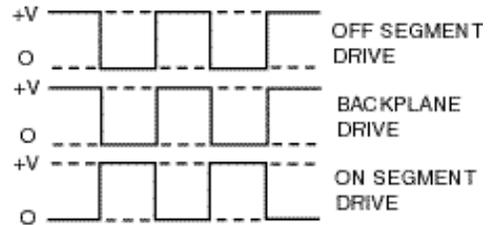
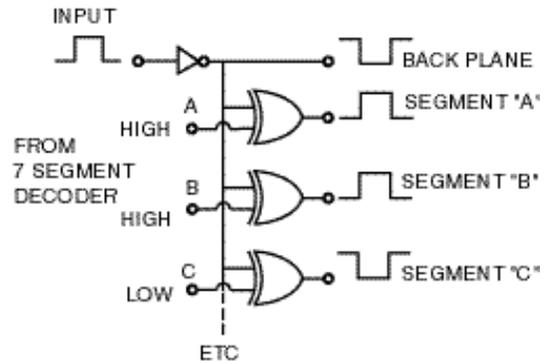

FIGURE 3. Typical AC Drive Signals
FIGURE 4. Exclusive-Or Drive Circuit
**ELECTRICAL CHARACTERISTICS** - Electrically, liquid crystal displays function like capacitors and, unlike LED's, are driven with an AC signal. This AC signal is necessary to maintain the electric field required to rotate the liquid crystal molecules. The LCD drive circuitry used for Texmate displays puts out a 60Hz square wave signal which is truly symmetrical and contains no DC components. Fig. 3 shows the typical AC drive signal's relationship between the common back plane and the individual segment elements. A segment is turned on when its drive signal is 180° out of phase with respect to the back plane. A segment is turned off when its drive signal is in phase with the back plane so that there is no net voltage between the back plane and the segment. Fig. 4 explains operation of the internal logic circuitry used to create the AC drive signal described in Fig. 3.